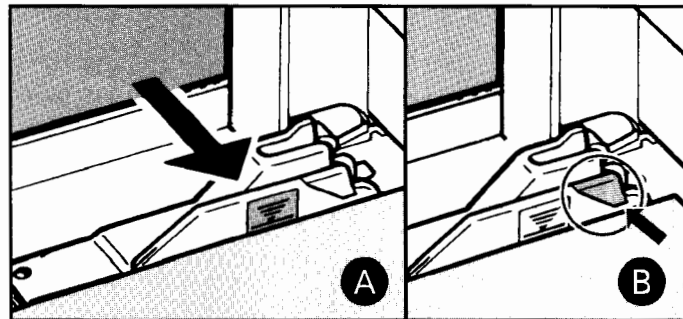

Figure 3-3.
2. Insert your paper or other print media with the **print surface face-down**. Place it in as far as it will go, making sure that it is no higher than the tip of the arrow on the paper width adjuster (figure 3-3, **A**).
- Slide the paper width adjuster to touch the left side of the paper or other print media you have placed in the tray, figure 3-3 (A), and tuck your paper or other print media under the white plastic paper guide, figure 3-3 (B).